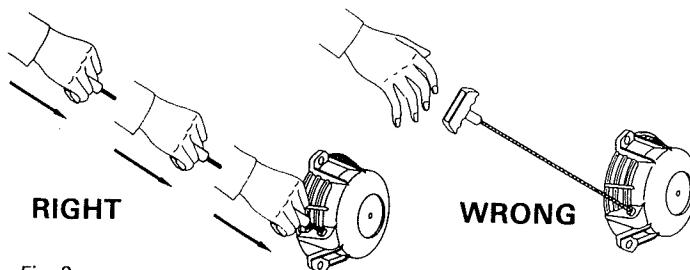

Fig. 3
b) By means of a recoil starter: Pull strongly on the rope. After starting the engine, do not let the handle out of your hand but accompany it back to the starter housing (see Fig. 3).